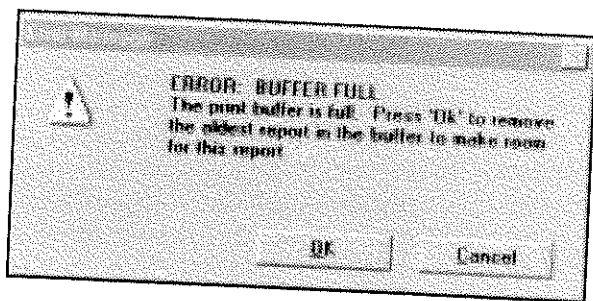

Figure 3-2. Data Output BUFFER FULL Error Screen
- *The unit is not connected to any active device* — If an outside data storage device is not available, the TTC/T-BERD 1000 stores the report in an internal print buffer. Each stored report increases the Counter by 1. The unit is capable of storing up to 15 reports. If the print buffer is already full, attempting to generate another report produces a warning (see Figure 3-2). If you disregard the warning screen, the TTC/T-BERD 1000 will store the newest report, but it causes the oldest (i.e., the first report) to be deleted from the print buffer.